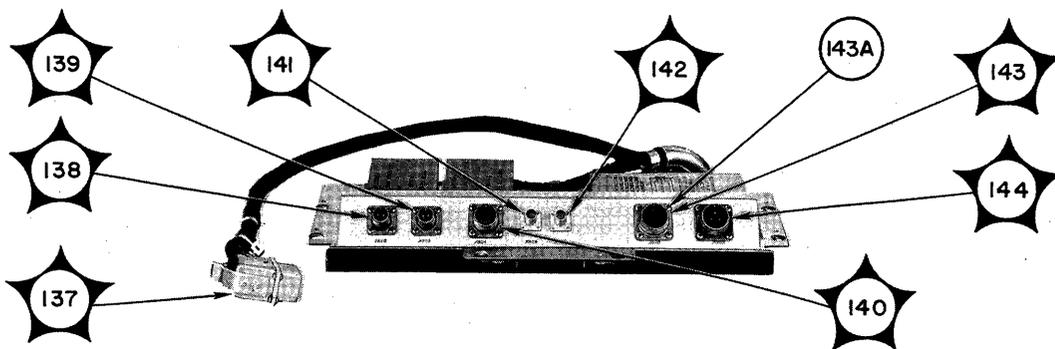

Figure 5-79. Demodulator Blister, Location of Test Points
f. DEMODULATOR BLISTER TROUBLE-SHOOTING CHART.—Table 5-19 is the trouble-shooting chart for the demodulator blister. Perform the steps in the order given, compare the results with those in the NORMAL INDICATION column, and follow the instructions given in the NEXT STEP column. Figure 5-79 shows the location of test points.